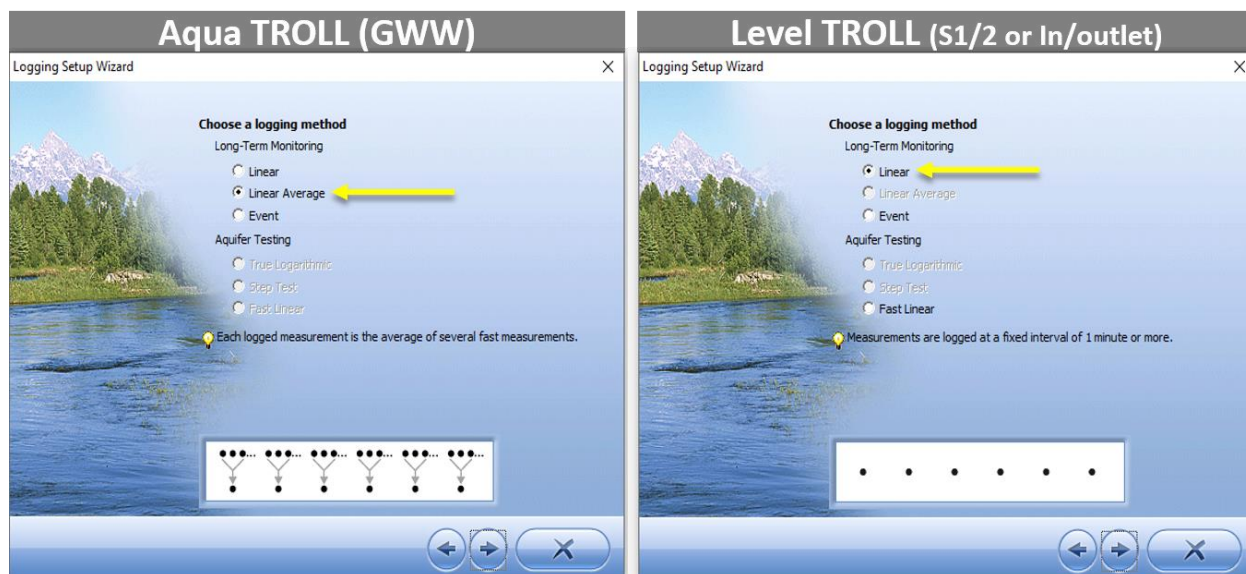

Figure 14. Choose a Long-Term Logging Method - Linear Average for Aqua TROLL & Linear for Level TROLL
6. Under **Choose a logging method** (Long-Term Monitoring), select **Linear Average** for Aqua TROLLs and **Linear** for Level TROLLs (Figure 14).